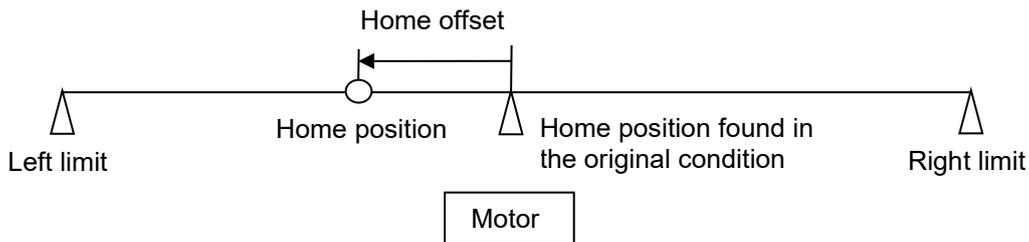

Figure 5.6.3
This method is only applicable to homing mode (3) described above. When “Home offset” is set as a non-zero value, the drive sets the home position found in the original condition as the value of “Home offset”, as Figure 5.6.3 shows. If “Home offset” is positive, the origin of coordinates is on the left side of the home position found in the original condition. If “Home offset” is negative, the origin of coordinates is on the right side of the home position found in the original condition.